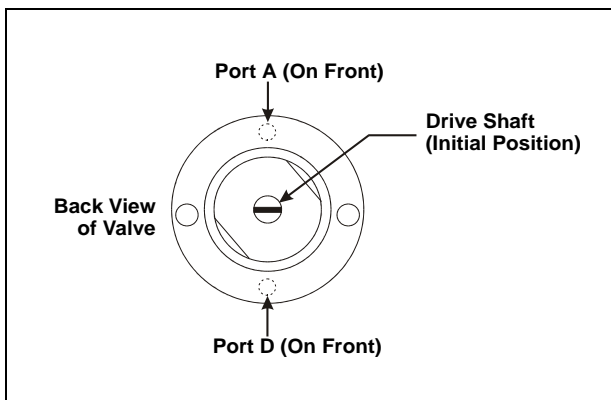

Figure 5-23. Sample Syringe Valve Drive Shaft Initial Position
4. Check the back of the new sample syringe valve (P/N 054242). The valve drive shaft should be perpendicular to valve ports A and D (see Figure 5-23).